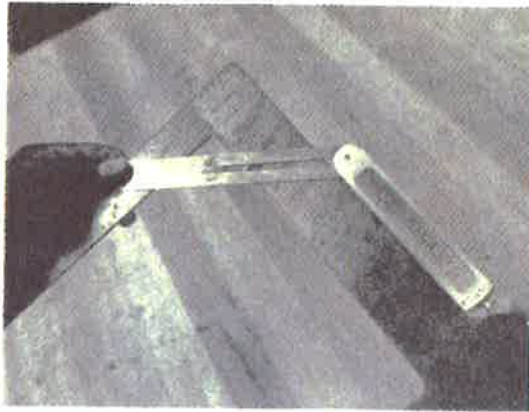

Fig. 7-29. Adjusting the bevel to the desired angle against a square.
1. Adjust the bevel to the angle you want (Fig. 7-29); then fasten the screw on the handle. This layout tool is especially useful